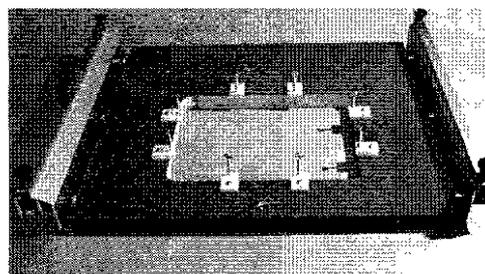

Figure 1
4. Slide the small diameter end of a Spring (12) over a Knob (11), then tighten the Knob with Spring into the threaded insert near each end of the Front Rail Assembly. Tighten these just enough to allow the Connector Tubes free movement in the Rails. Repeat this for the Rear Rail Assembly. At this time, also loosen the Knobs on both the Front and Rear Rail Assemblies of the Saw Table. (See Figure 1)